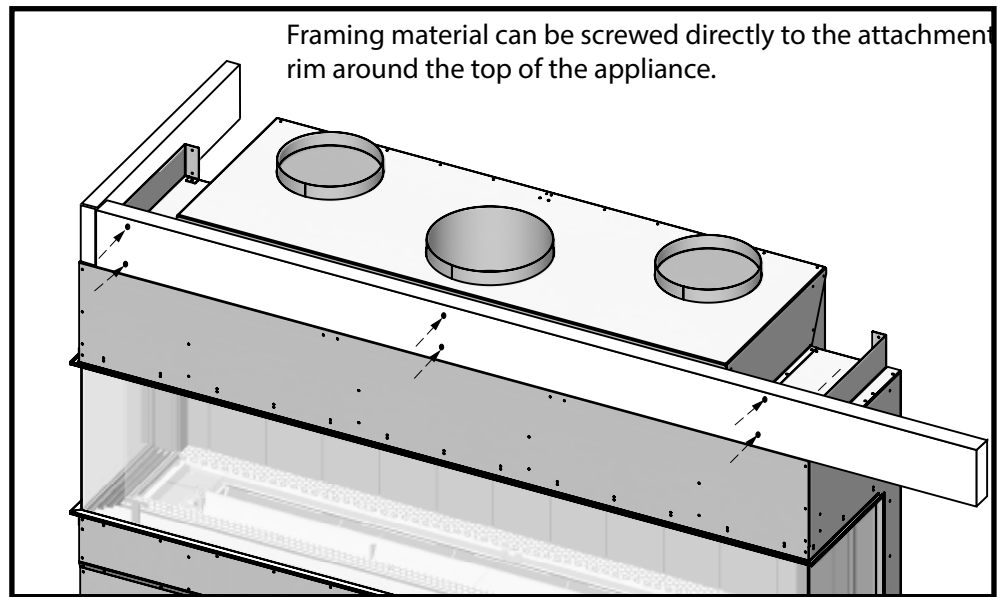

Figure 5: Stud securing points for Top Intake models.
1. When securing wooden studs to the top of the unit, the screws can be secured through any part of the upper fastening area surface (Figure 5).